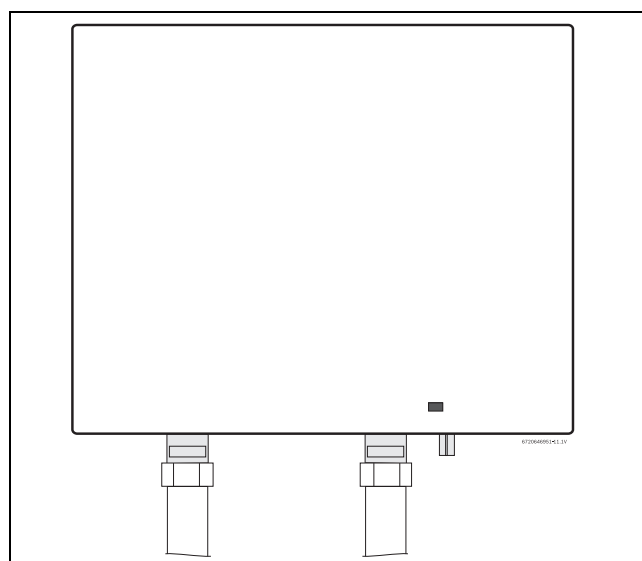

Fig. 6 Vertical mounting position
- ▶ The heater must only be installed in the orientation shown in Fig. 6 i.e., mounted in a vertical position with the water fittings located at the bottom of the heater. **Under no circumstances should the heater be mounted differently.**